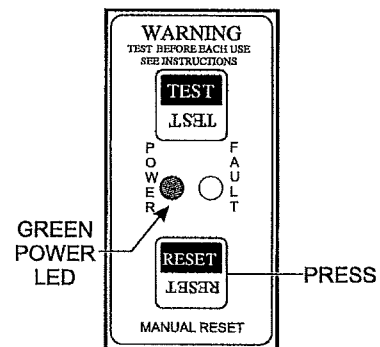

Figure 42. GFCI Module (Green LED ON)
3. On the GFCI module, verify that the green power LED is ON (Figure 42).